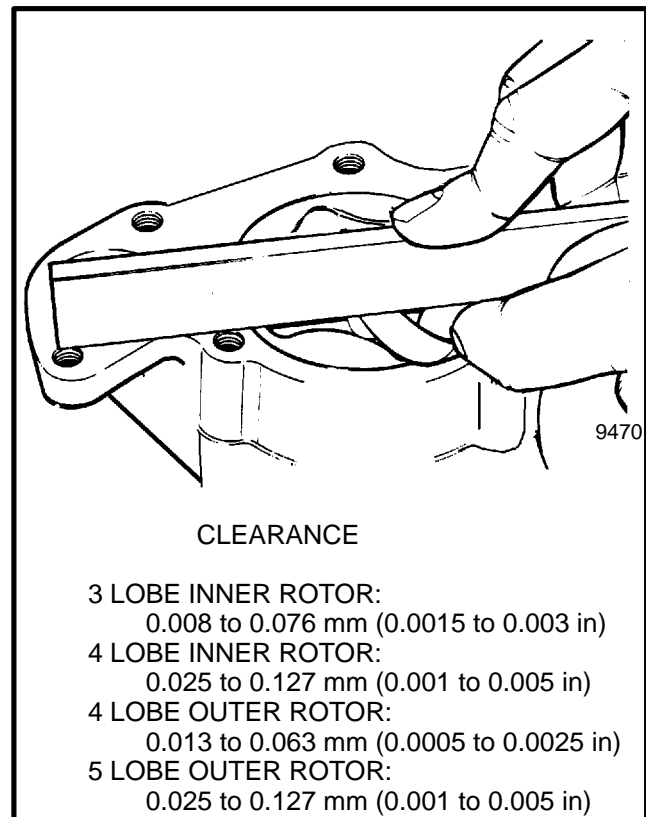

FIGURE 13. CHECK END CLEARANCE OF THE ROTORS
4. Check the clearance between a straight edge across the pump body and the driven rotor. See FIGURE 13.
5. Check the clearance between a straight edge and the inner rotor. See FIGURE 13.
NOTE: Each drive gear for the crankshaft, camshaft and fuel injection pump has timing marks that must be aligned with the idler gear so that the engine will operate. See FIGURE 13. See also that each drive gear and shaft has marks that must be correctly aligned during assembly.